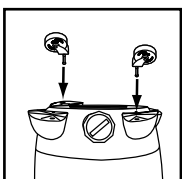

FIGURE 7
7. Insert casters into feet by placing stem of caster into holes provided. Apply pressure and twisting motion until casters snap into place. **FIGURE 7.**